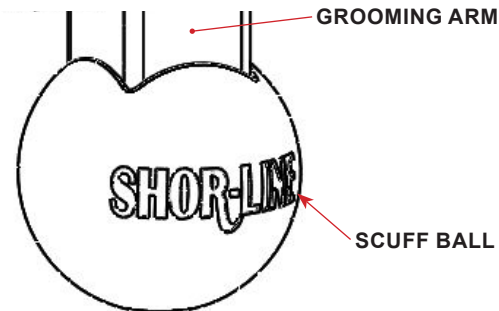

FIGURE 2.6 - Fixed Grooming Arm
STEP 6: Carefully align and insert the scuff ball assembly onto the end of the grooming arm. Apply pressure and work (wiggle) until the ball is seated to the bottom of the arm. See FIGURE 2.6